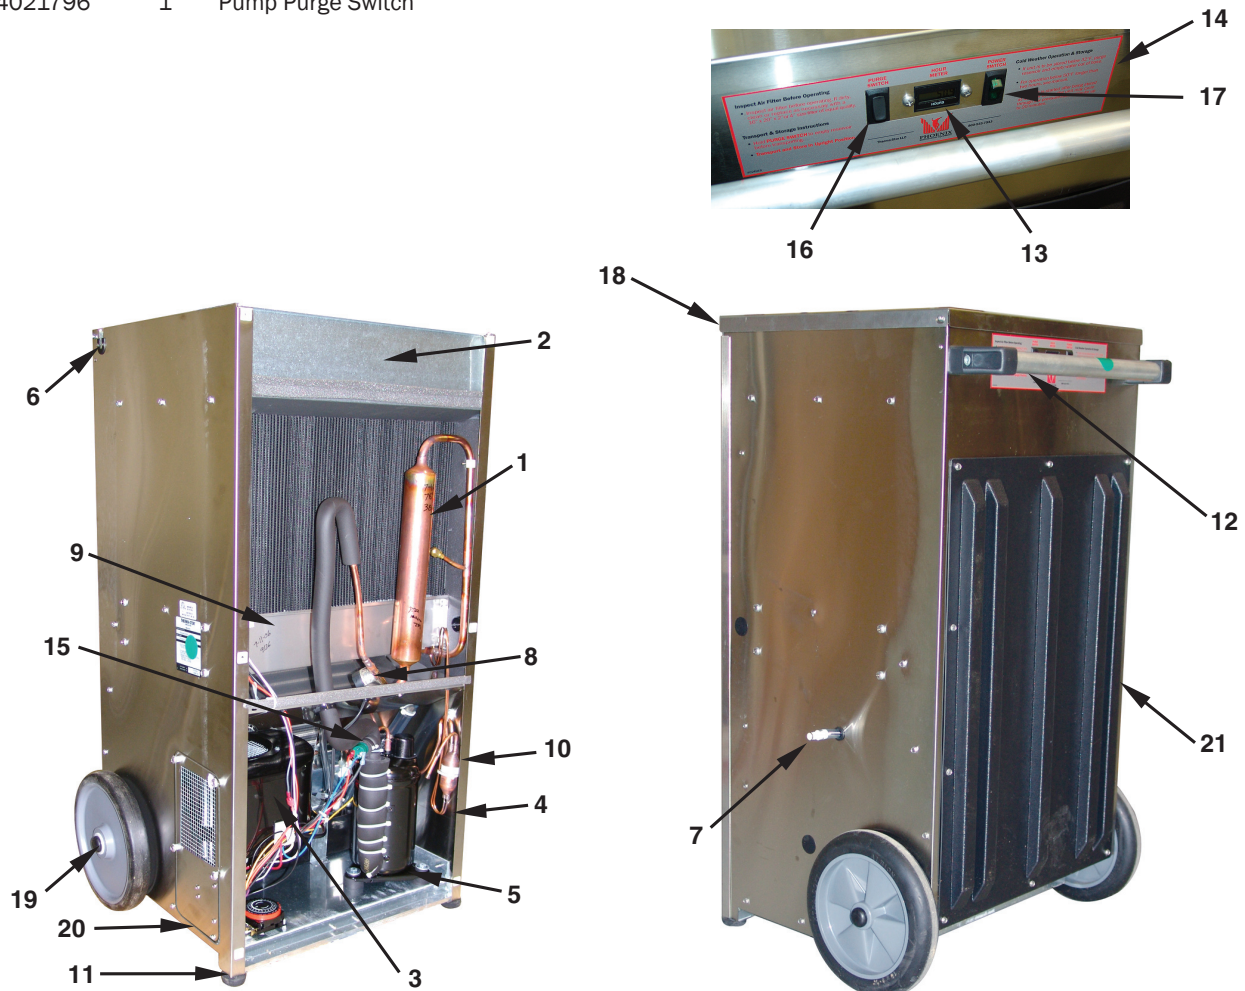

Figure 4
2. Push the plastic plug on the right side (see Fig. 4) out from inside the unit.